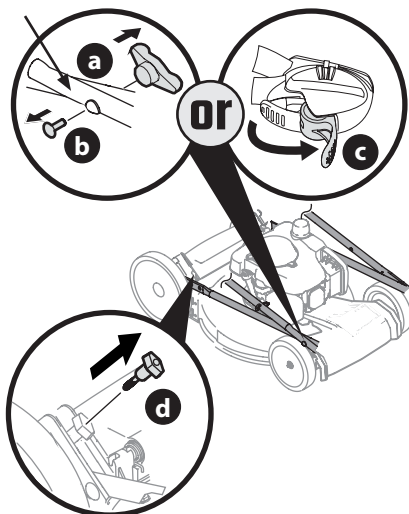

Figure 6
- Remove knobs or wing nuts (a) and carriage bolts (b) from the handle or if equipped with the EZ-lock handle (c), proceed to STEP 2 (Figure 6).
- Remove the T-bolts (d) from the handle brackets (Figure 6).